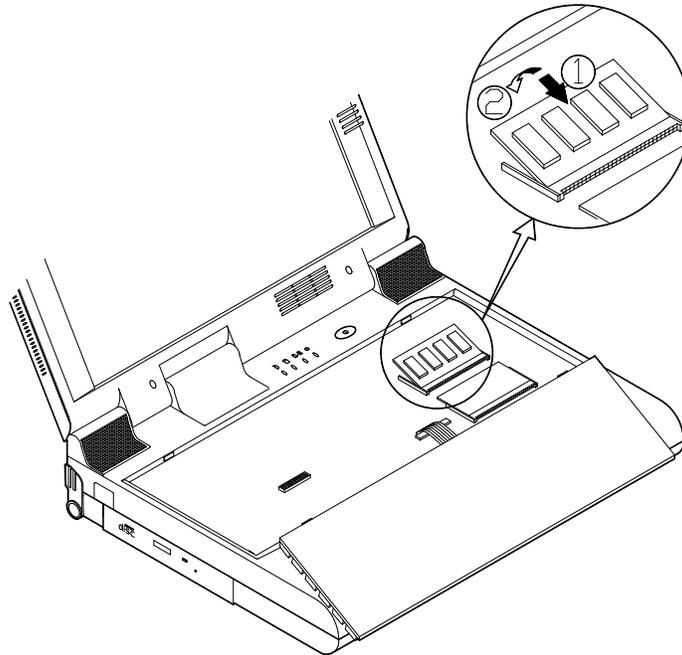

Figure 2-8
4. Position the memory module at a slight angle and fit its connectors into the socket firmly. Push the module down and ensure it locks into place (Figure 2-8).